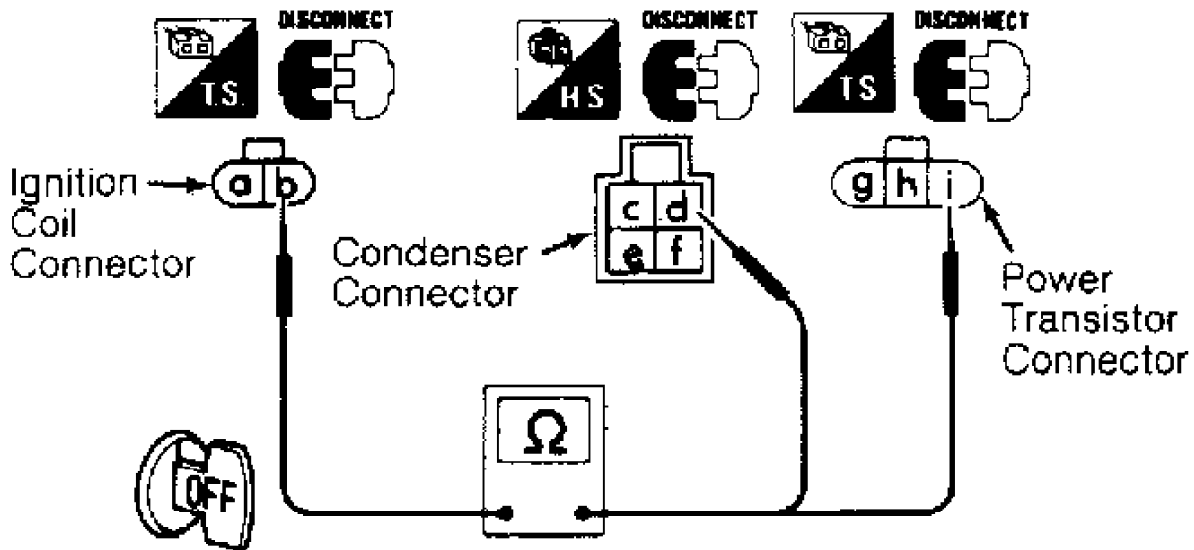

Fig. 6: Checking Ground Circuit (G20 & M30)
1) Turn ignition off. Disconnect resistor and condenser harness connector. Disconnect power transistor harness connector. Using ohmmeter, check continuity between ignition coil terminal "b" to resistor and condenser terminal "d" and power transistor terminal "i". See Fig. 6.
2) Connect ohmmeter leads between power transistor terminal "h" and ground. See Fig. 6. If continuity does not exist at all these terminals, check and repair wiring harness or connectors.